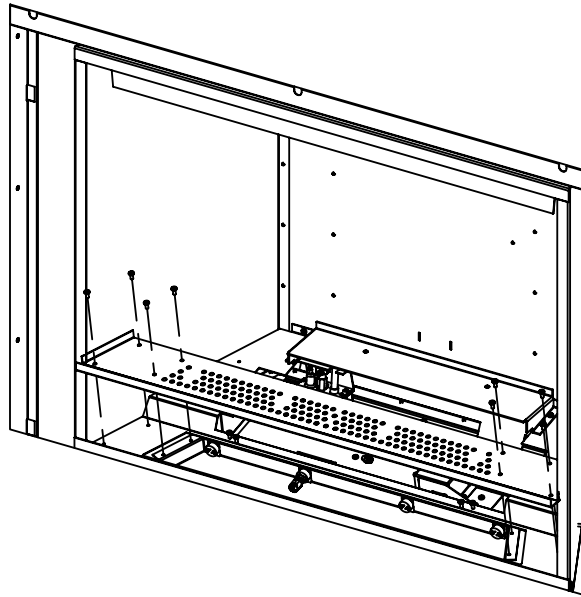

Figure 22. Media Tray Removal
4. Remove light tray by removing the four (8) T-20 screws (see Figure 22).